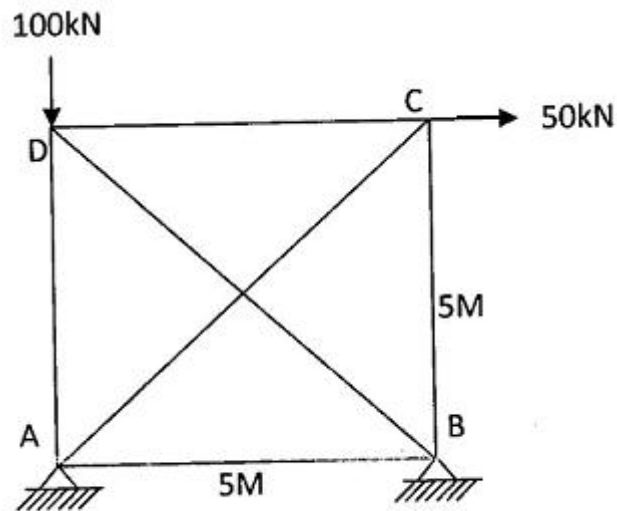

Fig. 4
- 15 Analyze the truss shown in Fig. 4 by using flexibility matrix, AE constant for all members.